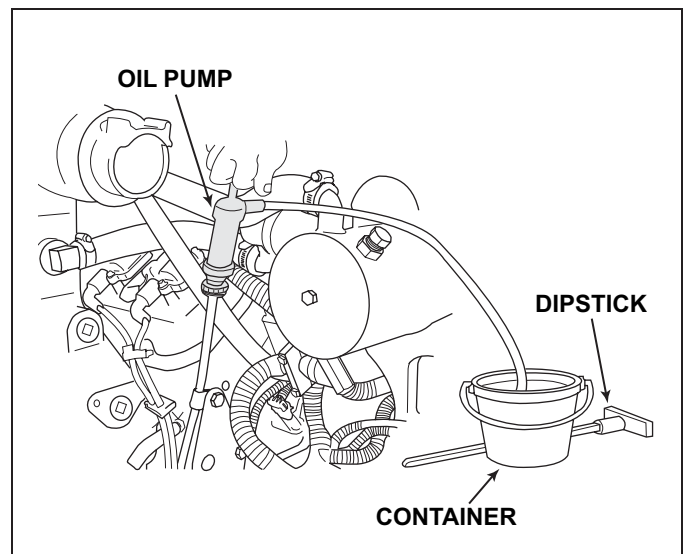

Figure 11-25 Engine Oil Removal
1. With the engine at normal operating temperature, remove the dipstick and install a crankcase oil pump onto the dipstick tube (Figure 11-25). Insert the discharge hose into a suitable container. Pump the oil from the engine until the crankcase is empty. Remove the oil pump from the dipstick tube.